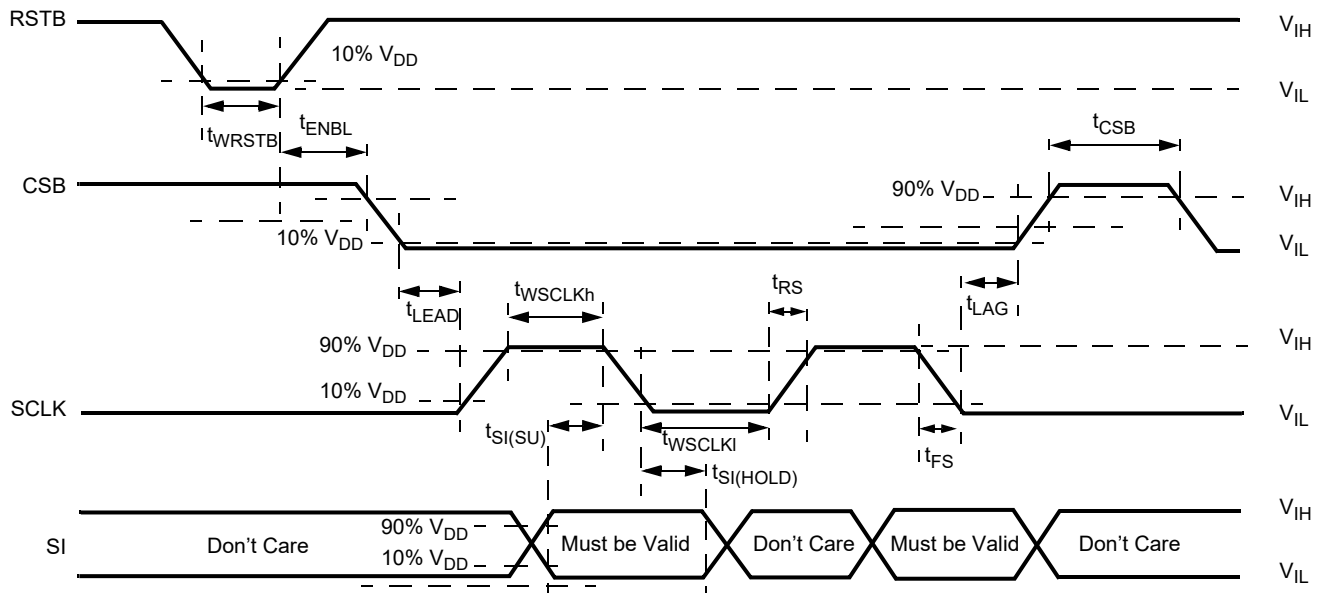
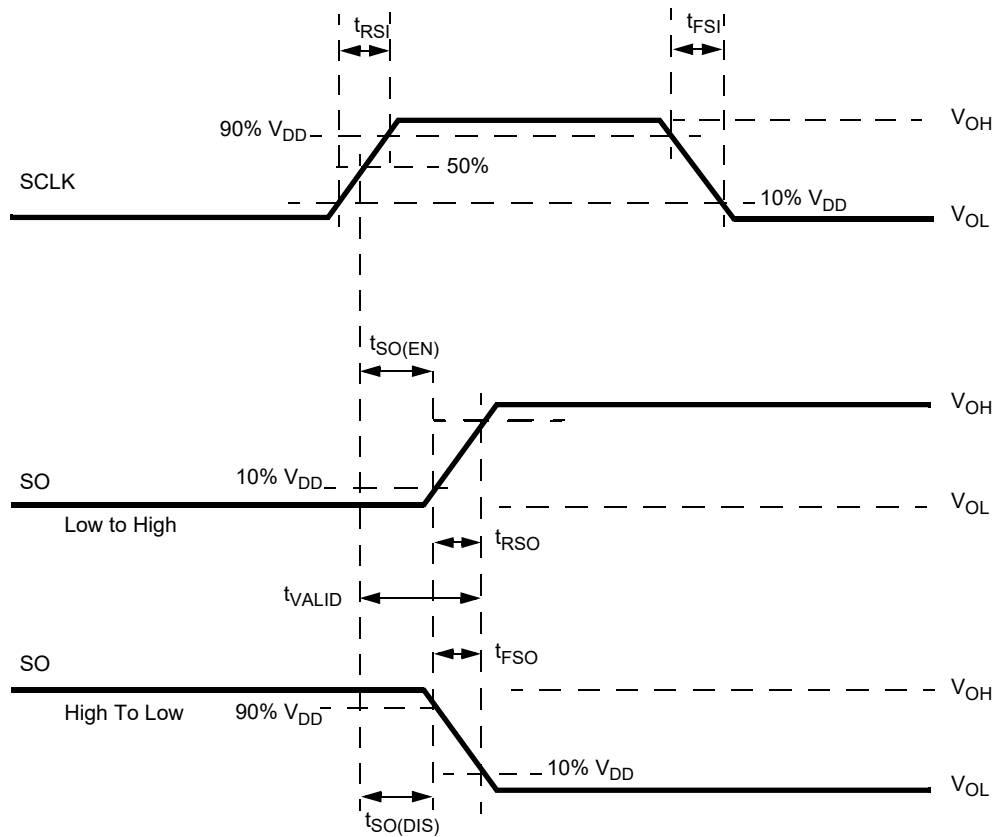

Figure 7. Timing requirements during SPI communication
Figure 8. Timing diagram for serial output (SO) data communication
Data communication over the SPI port is enabled when the CSB pin is in the logic [0] state. Data from the Input Shift registers are locked in the addressed SI registers on the rising edge of CSB. The device transfers the contents of one of the eight internal registers to the SO register on the falling edge of CSB. The SO output driver is enabled when CSB is logic [0]. CSB should transition from a logic [1] to a logic [0] state only when SCLK is at logic [0]. CSB is internally pulled up to V_{DD} through I_{UP} . (see Figure 7 and Figure 8).
5.2.10 Serial input (SI)
Serial input (SI) data bits are shifted in at this pin. SI data is read on the falling edge of SCLK. 16-bit data packages are required on the SI pin (see Figure 7), starting with bit D15 (MSB) and ending with D0 (LSB). All the internal device registers are addressed and controlled by a 4-bit address (D9-D12) described in Table 11. Register addresses and function attribution are described in Table 12. The SI pin is internally connected to a pull-down current source, I_{DWN} .